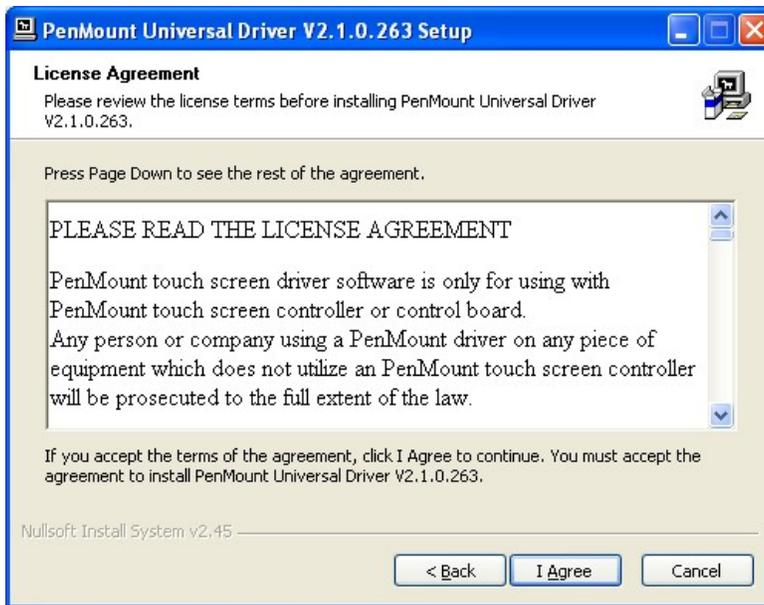

Figure 7-18: Touchscreen Driver License Agreement
Step 6: The **License Agreement** shown in **Figure 7-18** appears.